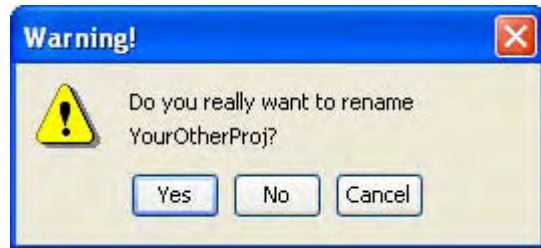

Figure 6.24 Warning Message when Renaming “Other” Project
3. A warning message (Figure 6.24) appears when you save the new name, asking you to confirm that you want to rename the project.